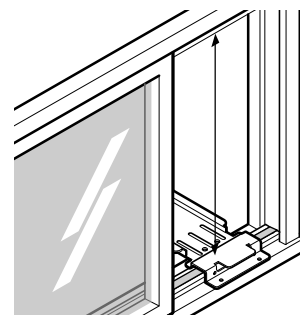

Figure 26
7. Measure height of window opening from top of bracket assembly as shown Fig. 26. Subtract 20-3/4". Mark this measurement on curtain and cut the curtain. (See Figure 26)